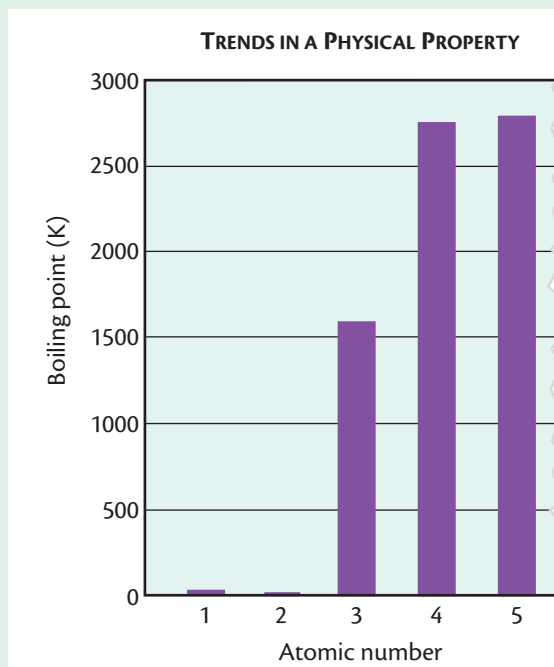

Figure 8 Sample bar graph for boiling point data.
- Label the *y* axis *Boiling Point (K)* and number it from 0 to 3000 K, as shown in Figure 8. Use as much of the space on the graph paper as possible to plot these kelvin temperatures.
- Construct a graph as in Step 4, this time using the boiling point data from the element cards, as shown in Figure 8. Do not include data for the element with atomic number 6. The boiling point of this element (carbon) would be quite far off the graph.